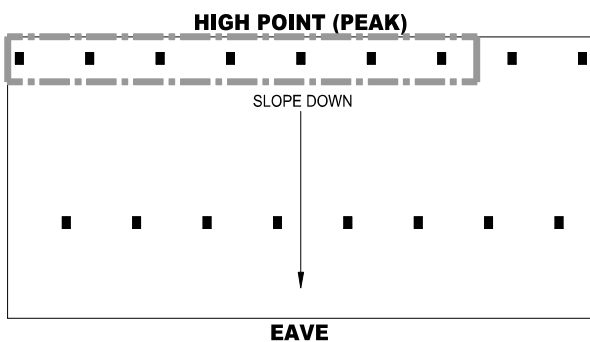

FIGURE 22B
- Calculation #1: Calculate the 7 most hydraulically demanding contiguous DS sprinklers located along the high point (peak). See Figure 22B.